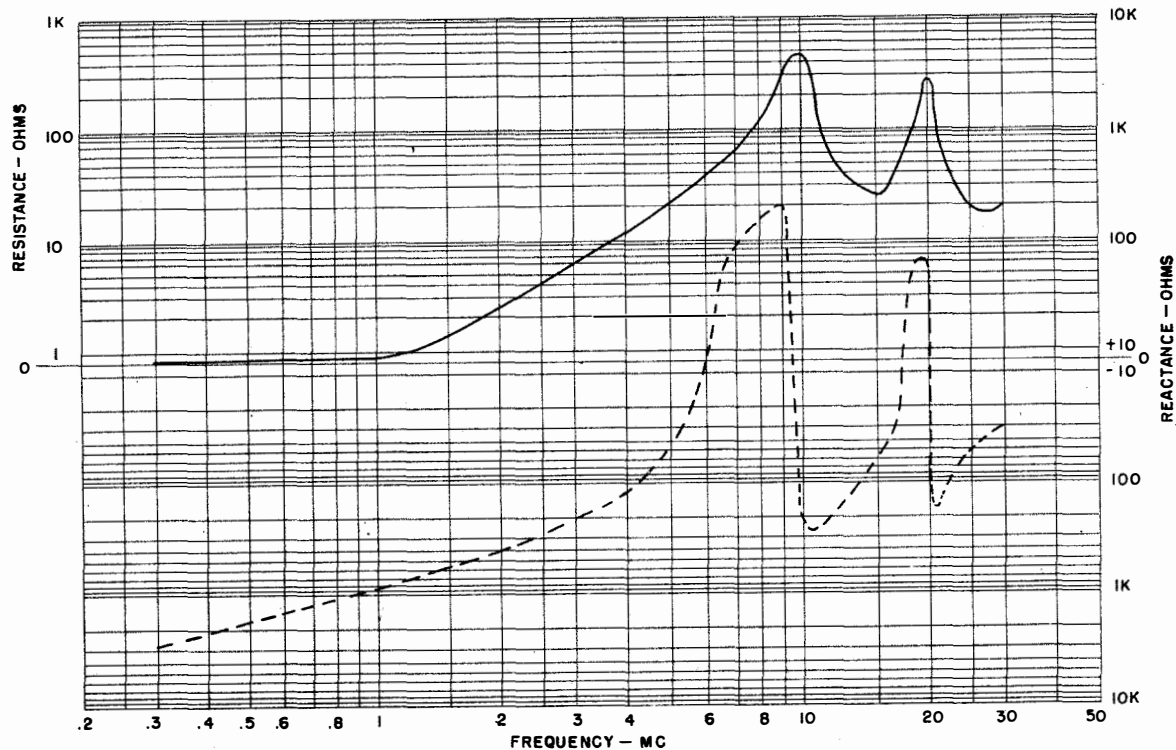

Figure 2-118. Impedance Characteristics, Typical 35-Foot Whip Antenna
The antenna characteristic is such that it is resonant (zero reactance) for any given frequency if its length is some multiple of quarter-wavelengths. However, at even multiples of quarter-wavelengths the resistive component is high, while at odd multiples of quarter-wavelengths, the resistance is low or medium. The reactive component of the load of an antenna whose length is between an odd multiple and an even multiple of quarter-wavelengths is positive (inductive). An antenna whose length is between some even multiple of quarter-wavelength and the next odd multiple presents a negative (capacitive) reactance. These antenna characteristics are demonstrated by figure 2-118 which shows the impedance characteristics of a standard Navy 35-foot whip antenna.
(2) IMPEDANCE TRANSFORMER.—The length and configuration of the single loop coupling coil, L-301, has been designed for optimum coupling above 1 mc. The characteristic of the 35-foot whip antenna (figure 2-118) shows that the resistive component of the antenna impedance is so low at a frequency of 1 mc or lower that a step-up transformer will be required after the antenna is resonated to bring the SWR to within the allowable limit.